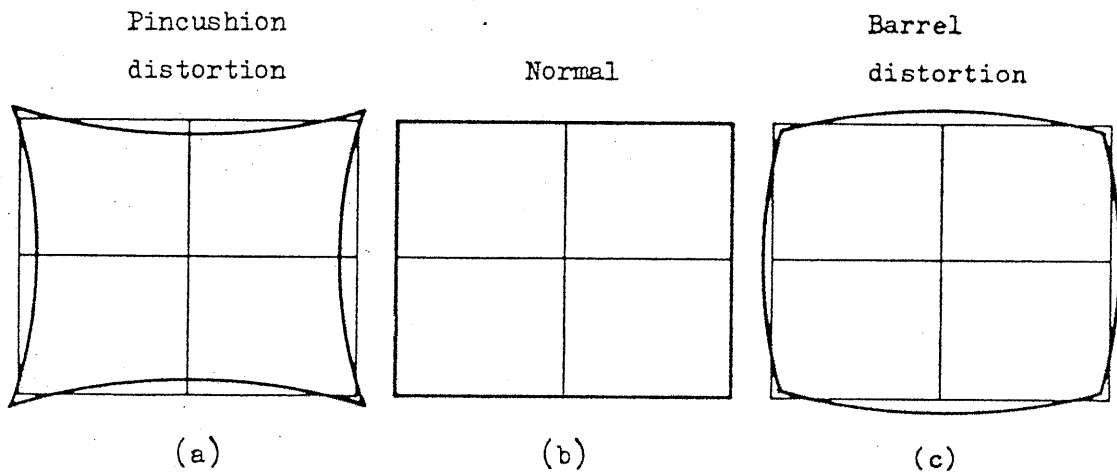

Figure 27
- (1) Apply a sinusoidal signal of approximately 50 kHz to vertical input terminal (9) or (15) and display the signal with an amplitude of 8 DIV and with approximately 50 peaks.
- (2) So adjust the GEOMETRY control (Figure 33, R1015) that the displayed pattern becomes as (b) in Figure 27.